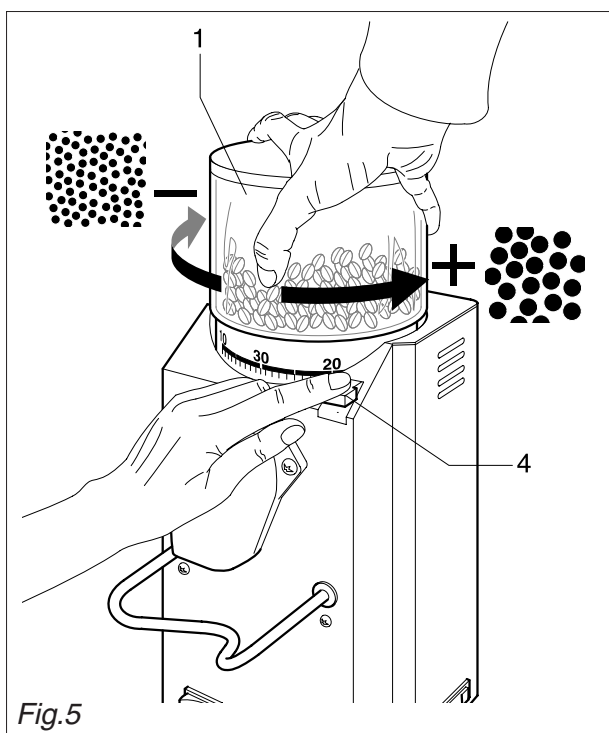

Fig.5
- Start up the motor using switch (2) and only for SD model also press button (3) to make sure that the grinders do not touch each other;
- Switch off the machine, open tank (1), pour a small quantity of coffee beans into it and grind using switch (2); then, for SD model, button (3).
- If the coffee does not meet your requirements, adjust the grinding by turning the container in a clockwise direction for fine grindings and in an anti-clockwise direction for coarse grindings (Fig.5);